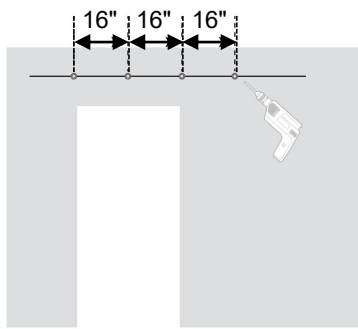
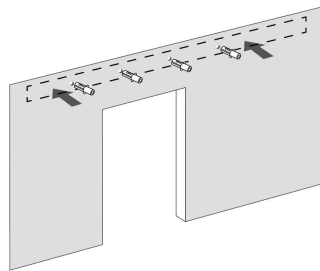

Figure 2
Figure 2-1
- **Step 4:** Predrill 4 pilot holes of 2" depth with 3/8" drill bit (Figure 2). Install the expansion anchor into the predrilled holes using a hammer (Figure 2-1).
- **Step 9:** Install the expansion anchor into the predrilled holes using a hammer. (Figure 2)